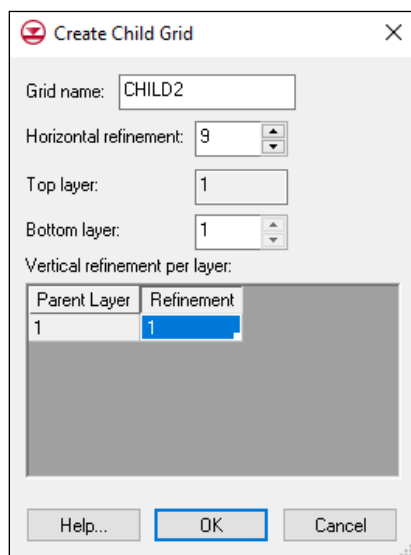

Figure 3 Create Child Grid dialog
- Right-click in the selected area and select **Create Child Grid...** to bring up the *Create Child Grid* dialog (Figure 3).